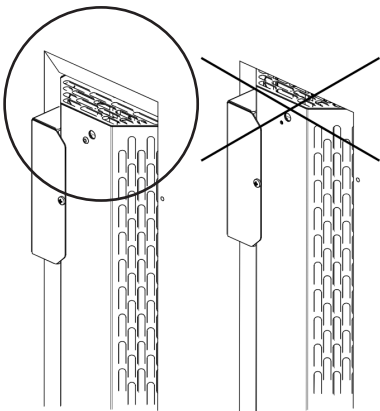

Fig. 1: Do not cover ventilation slots
- The ventilation slots at the top and bottom must NOT be covered (see **Fig. 1**)